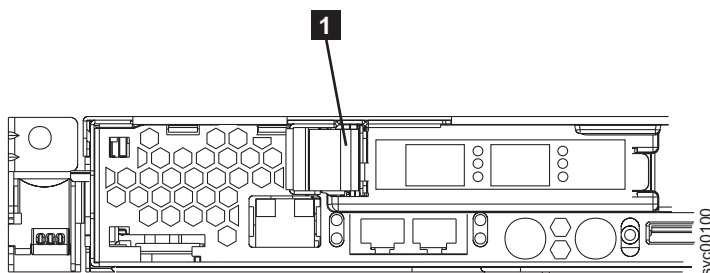

Figure 187. SAN Volume Controller 2145-8F2 or SAN Volume Controller 2145-8F4 PCI slot 1 card retainer
1. Install the fibre-channel card in slot 1, which is shown in Figure 187.